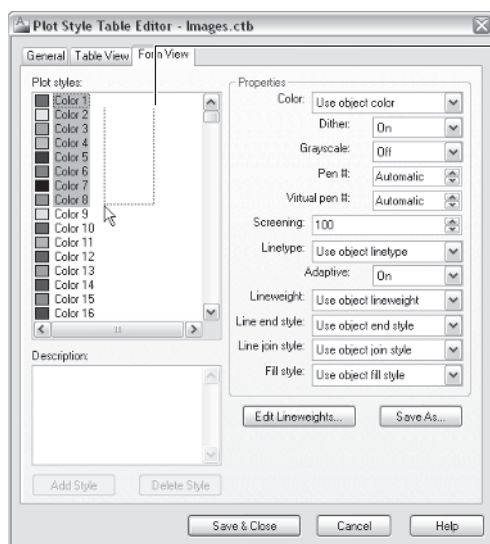

Figure 1.11 Naming the color-dependent plot style
6. Type the name **Images** in the File Name text box (Figure 1.11).